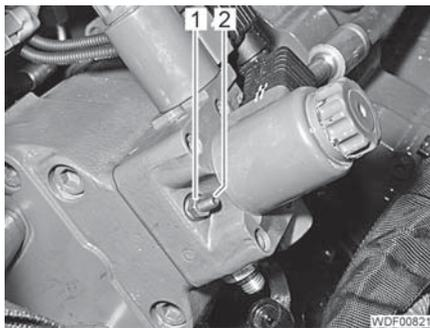

Fig. 23 Adjustment screw
- Undo the nut (Fig. 23,1).
- Adjust the control commencement at the screw (Fig. 23,2):
- Tighten the nut (Fig. 23,1).